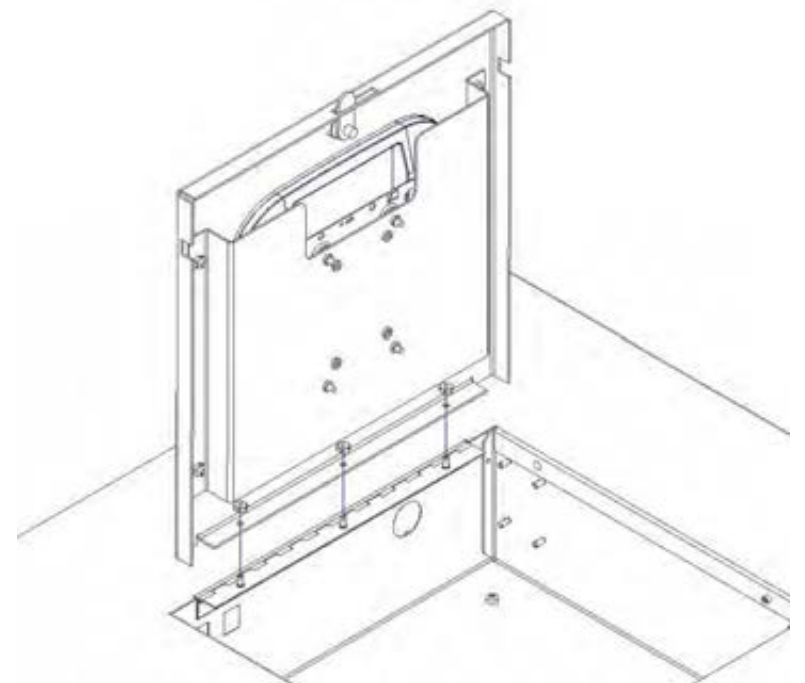

Figure 4
Step 4 – Install the door assembly by placing the three (3) mounting holes in the door over the studs on the hinge and then replace the nuts (Figure 4).